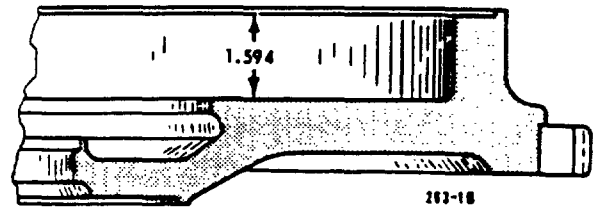

Figure 4-5. Flywheel Rubbing Surface-to-Clutch Cover Bolting Surface Dimension
7. If flywheel is warped or heat checked and surface is refinished, maintain the 1.594 inch dimension between disc surface and bolting face for proper release lever adjustment. See Figure 4-5. No more than 0.070 inch maximum may be removed by grinding.